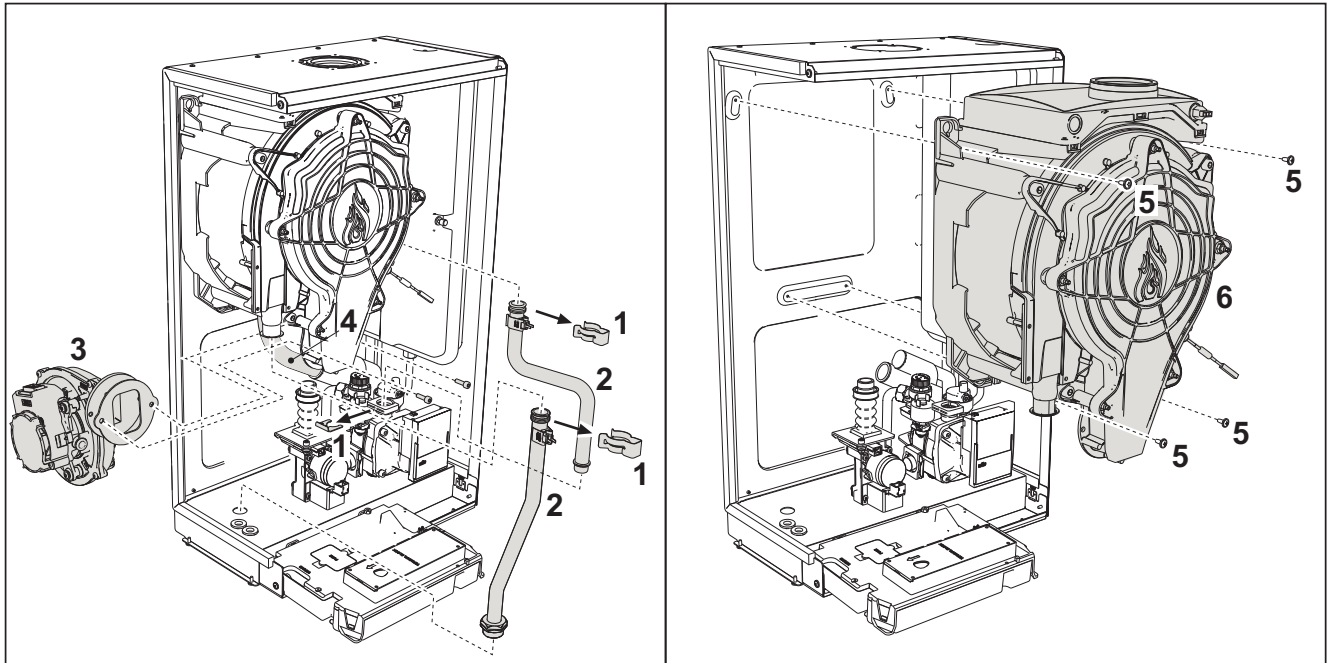

fig. 36- Main exchanger
- Remove the 2 top screws "5" securing the exchanger to the frame (fig. 36)
- Loosen the 2 bottom screws "5" securing the exchanger to the frame (fig. 36)